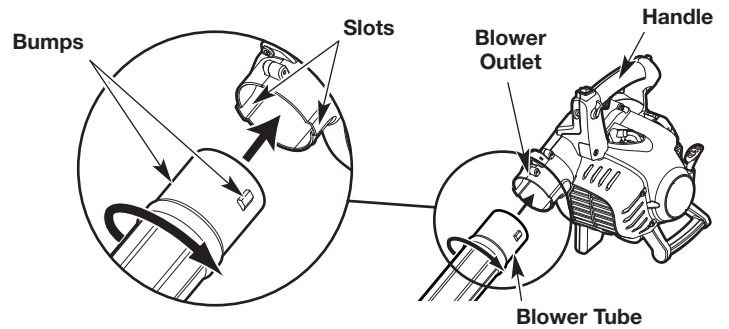

Fig. 1
2. Align the bumps on the upper end of the blower tube with the slots on the blower outlet (Fig. 1).
3. Insert the blower tube into the blower outlet (Fig. 1).
4. While holding the handle, twist the blower tube clockwise until it locks into place (Fig. 1).